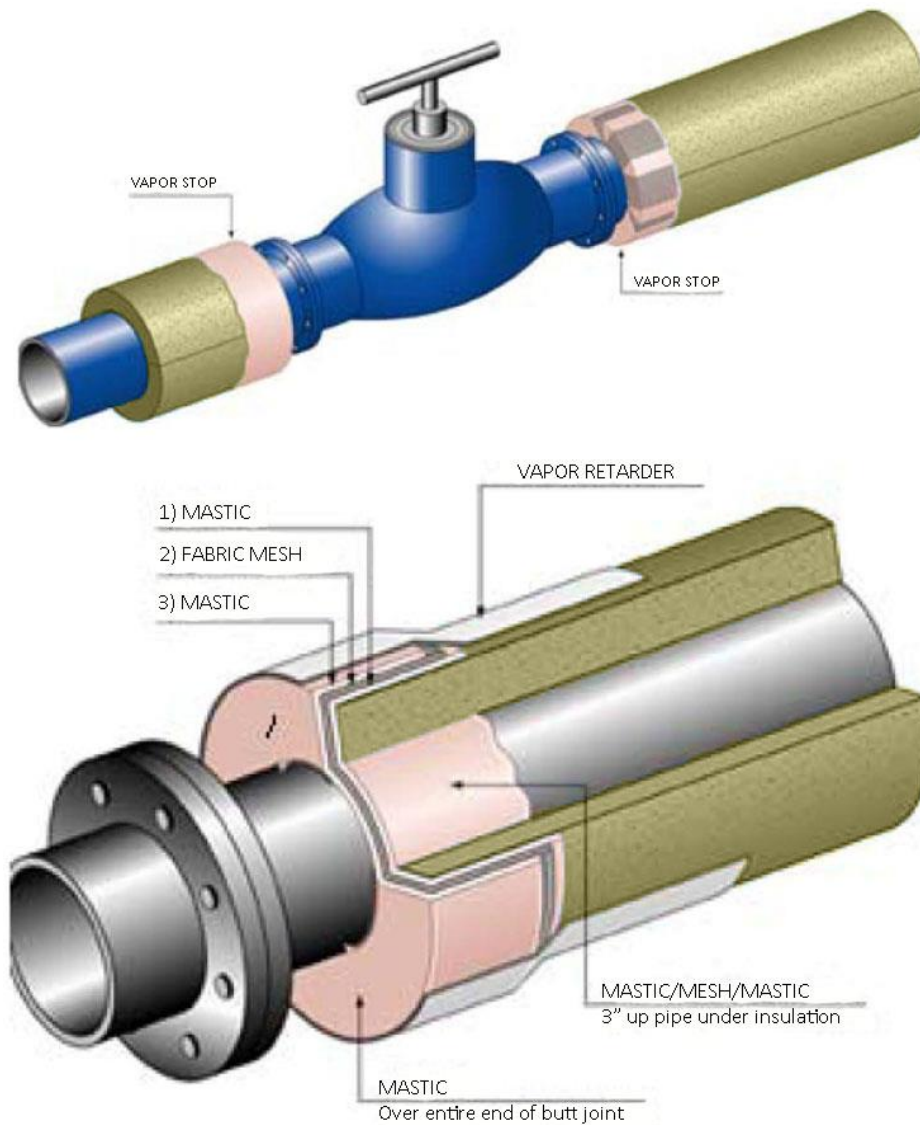

**Figure 5**
- 4.1.13 Contraction/expansion joints shall be installed as described in section 3.5 and illustrated in Figure 5 in Appendix B or approved alternate design. The appropriate designer or engineer must specify the spacing of contraction/expansion joints separately for each system.